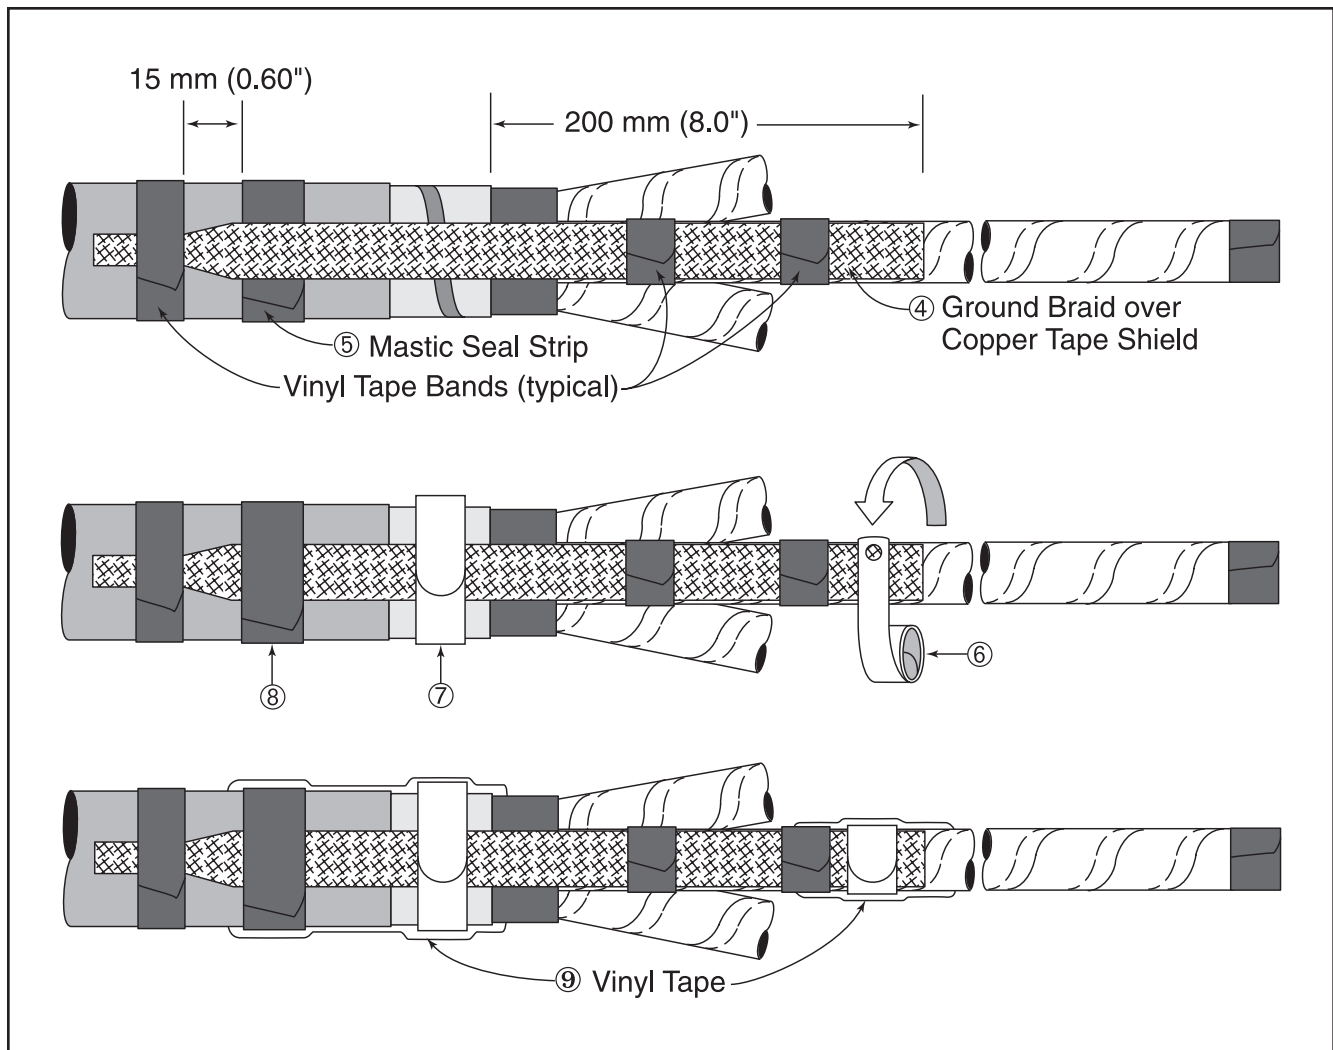

Figure 3
- 2.2 Position each expanded ground braid end over cable as shown in Figure 3. Using vinyl tape bands, secure upper braid end to copper tape shielding 200 mm (8.0") beyond armor edge (jacket edge for non-armored cable) (④ Figure 3). Secure to cable jacket 15 mm (0.60") below mastic seal strip (⑤ Figure 3).
- 2.3 Connect ground braid upper ends to copper tape shield using small constant force spring (⑥ *Figure 3*). **Armored cables:** Connect three ground braids to cable armoring using one large constant force spring (⑦ *Figure 3*). Following application, cinch (twist with hand) each spring to tighten.
- 2.4 Apply a second mastic seal strip over ground braids and previously-applied mastic strip (⑧ *Figure 3*).
- 2.5 Apply two highly stretched half-lapped layers vinyl tape over mastic seal strips and constant force springs (⑨ *Figure 3*).